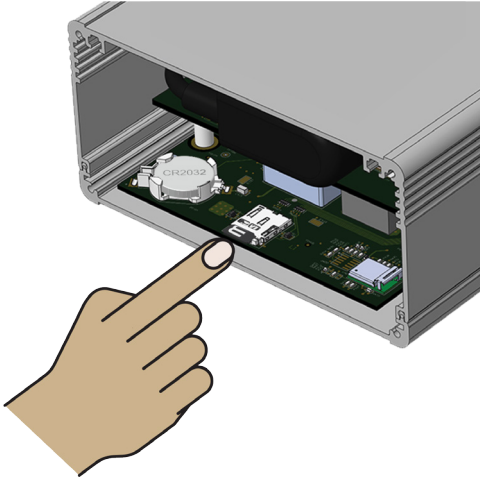

Figure 20: Remove the MicroSD card
- a. Remove the MicroSD card by pushing the protruding edge of the card until there is a clicking sound—ejecting the card from the tray. Refer to Figure 20 below.